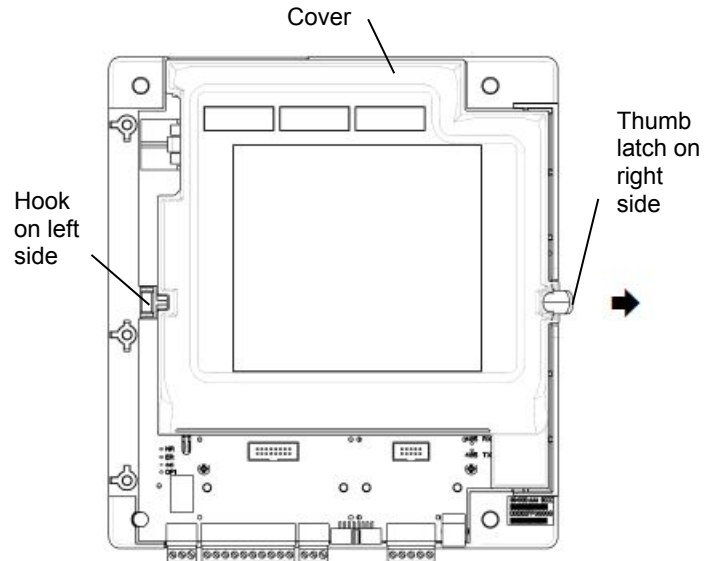

Figure A-1. Cover removal.
2. Release the cover by pressing the latch outward on the right side with your thumb. Figure A-1.
2. Press the cover inward until it latches on the right side. See Figure A-1.